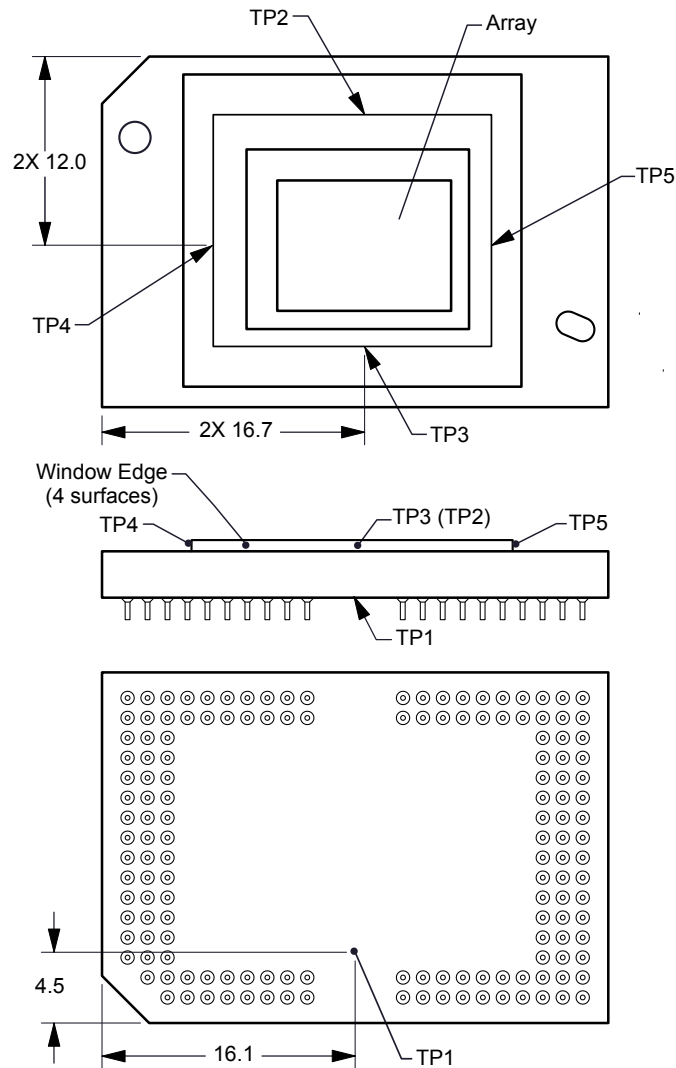

Figure 6-1. DMD Thermal Test Points
Micromirror array temperature cannot be measured directly, therefore it must be computed analytically from measurement points on the outside of the package, the package thermal resistance, the electrical power, and the illumination heat load. The following equations show the relationship between array temperature and the reference ceramic temperature, thermal test TP1 Figure 6-1 shown above:
- T_{CERAMIC} = Measured ceramic temperature (°C), TP1 Figure 6-1
- $R_{\text{ARRAY-TO-CERAMIC}}$ = Thermal resistance of package specified in Section 5.5 from array to ceramic TP1 Figure 6-1 ($^{\circ}\text{C}/\text{W}$).
- Q_{ARRAY} = Total DMD Power (electrical + absorbed) on array (W).
- $Q_{\text{ELECTRICAL}}$ = Nominal electrical power (W)
- Q_{INCIDENT} = Incident illumination optical power (W)
- $Q_{\text{ILLUMINATION}}$ = (DMD average thermal absorptivity \times Q_{INCIDENT}) (W)